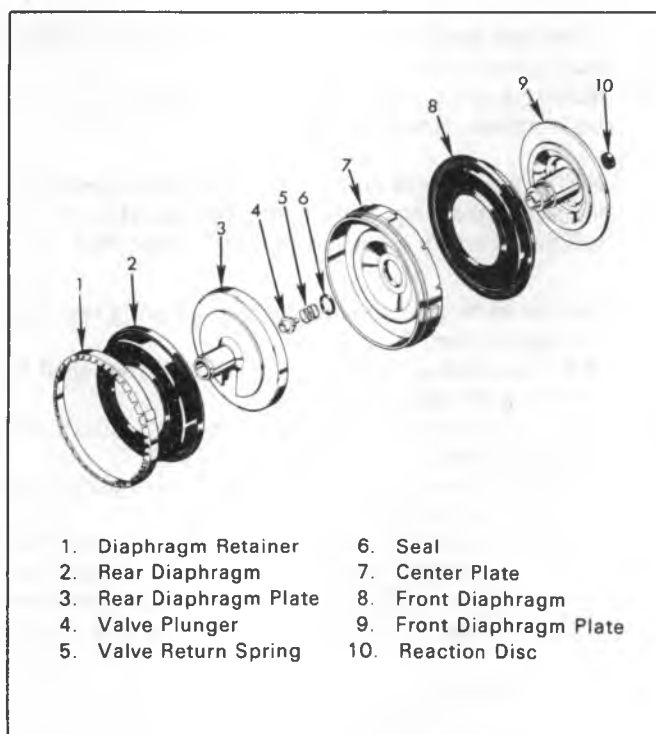

Fig. 7C—Removing Diaphragms, Plates, Retainer and Plunger
22. Remove rear diaphragm from rear diaphragm plate (fig. 7C).